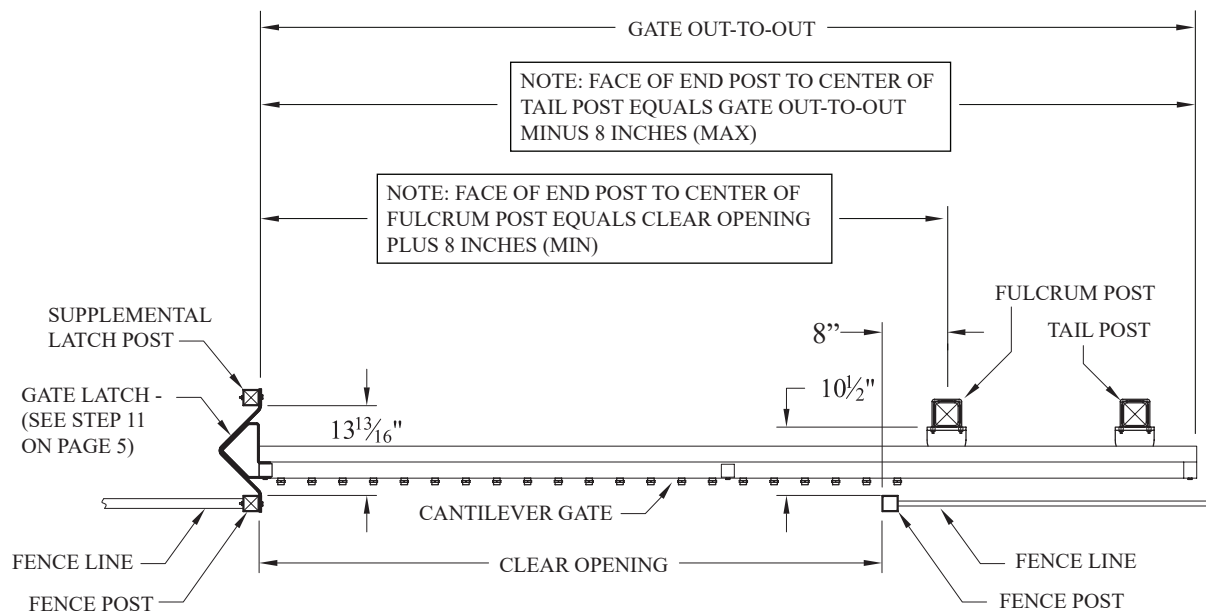

FIGURE 1
1. All gates require two 4" square truck bracket mounting posts, one to act as Fulcrum Post, the second as Tail Support Post. Set these mounting posts in an off-line configuration as shown in Figure 1. Check grade conditions to ensure posts are set to proper height; allow no more than four (4) inches from bottom of gate to grade. A Supplemental Latch Post, located as shown in Figure 1, is required to mount patented offset latches (see Step 11 - Page 6). See post set table page 2.